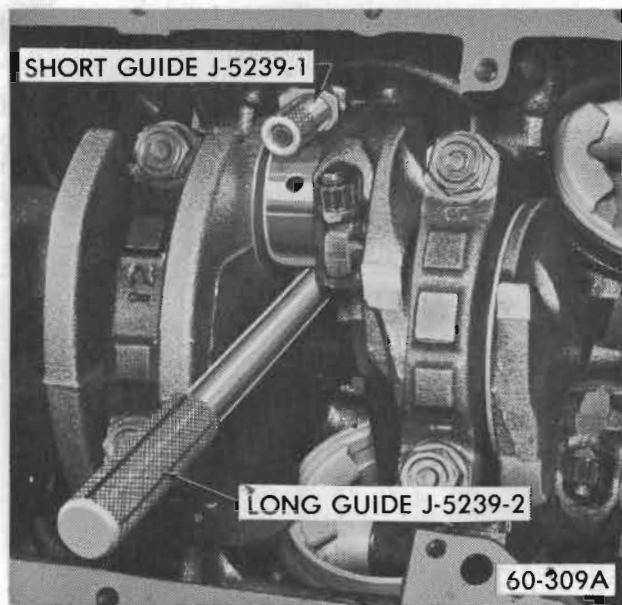

Figure 60-96 - Connecting Rod Bolt Guides Installed
4. With No. 1 crankpin straight down, remove the cap with bearing shell from No. 1 connecting rod, install the *short* Connecting Rod Bolt Guide J-5239-1 on the connecting rod bolt, above crankpin. Install the *long* Connecting Rod Bolt Guide J-5239-2 on remaining stud. Turn guides down fully to hold the upper bearing shell in place while removing piston and rod assembly. See Figure 60-96.